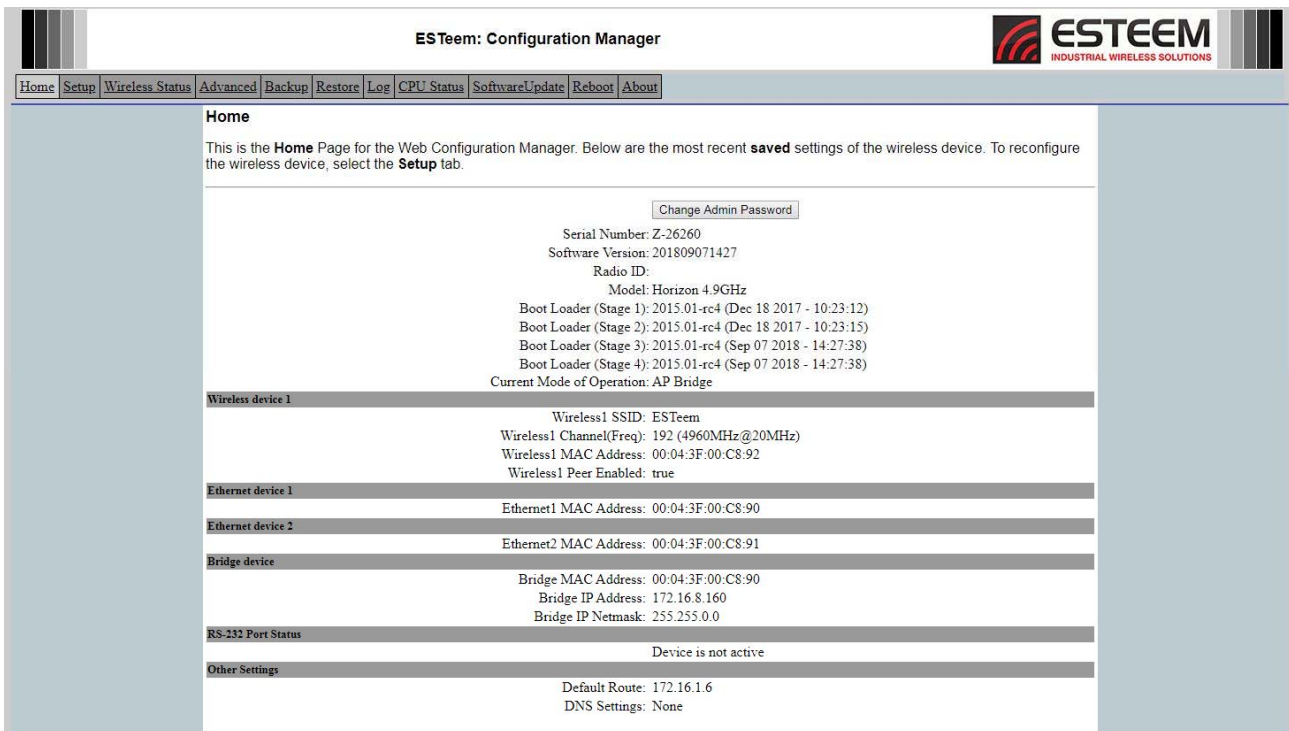

Figure 2: Home Screen
5. After Log-in the next screen displayed will be the Horizon Home page (Figure 2). This example screen shows the Home Menu screen.
The Home Menu will be the default web page for the Horizon Web Configuration Manager (Figure 2). This section will display the current configuration summary for the Horizon and allow changing of the default password. This page will also display the Radio ID field that can be used to easily identify the Horizon you are programming. This Radio ID field can be set to any text combination for example, location name, GPS coordinates or addresses. The Radio ID will be displayed on the Home Page, when using the Discovery Utility and in the Wireless Status menu. The Radio ID can be set on the last page of the configuration menu (see Chapter 3 – Example Applications) or through the Advanced Menu as shown below: